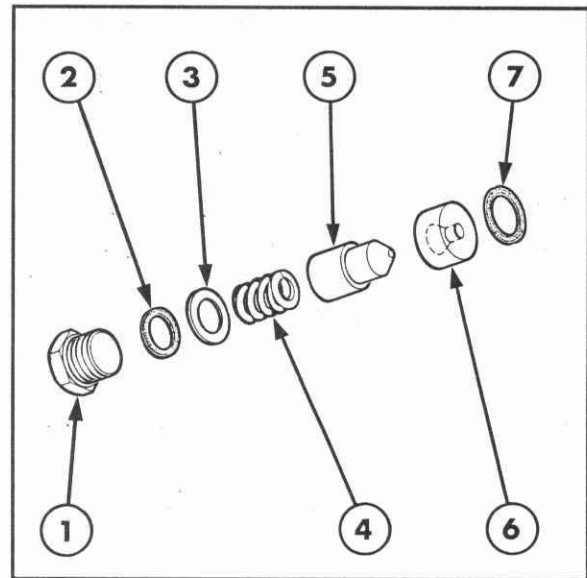

Figure 7-48
4. Carefully withdraw the pressure relief valve, pin, seal, and spring, and add or subtract shims as required. Refer to Figure 7-48.